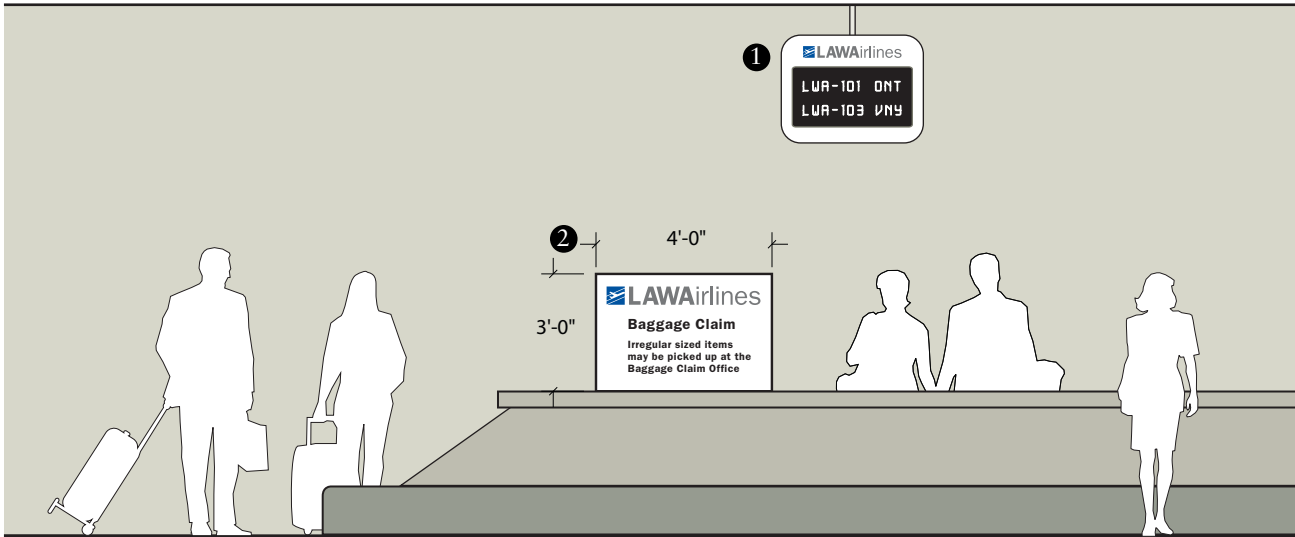

Figure 3i: Two standardized sign types help to minimize disorder in the baggage claim area.
- ① Message size is determined by the LED monitor.
- ② The display sign will not exceed 4 feet by 3 feet in size. A double-sided panel or a four-sided cube will be allowed.
①② See Figure 3i.